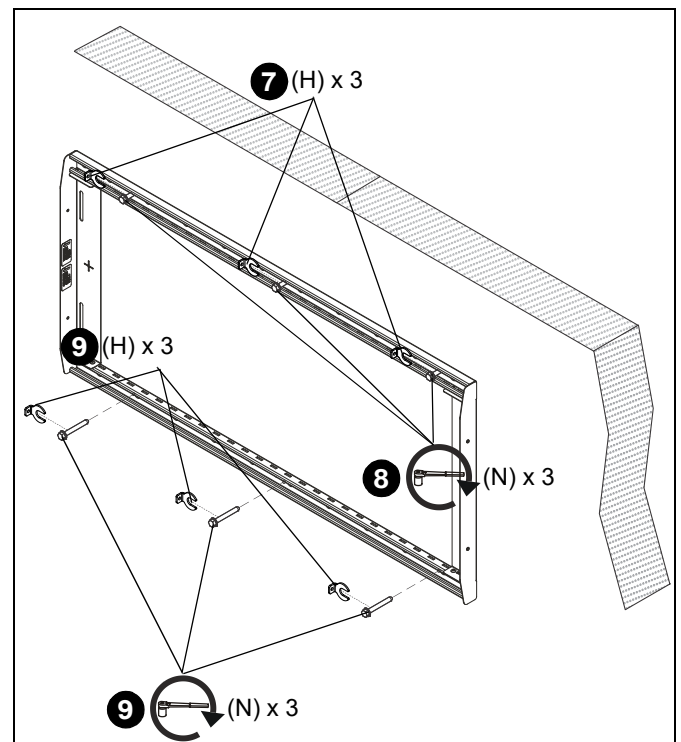

Figure 17
7. Place one slotted washer (H) over each flanged lag bolt. (See Figure 17)
8. Tighten lag bolts to secure rail assembly (C) to wall at upper mounting slots. (See Figure 17)
9. Use three 5/16 x 2-1/2" flanged lag bolts (N) and three 5/16" slotted washers (H) to attach the mount to the wall through the lower mounting holes. (See Figure 17)